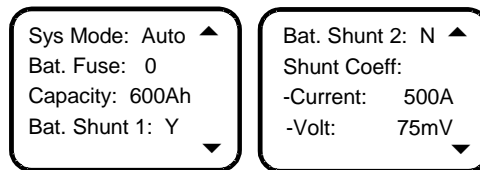

Figure 4-24 Battery basic parameter setting page
1. At the BAT Settings page, press ▲ or ▼ to select Basic Setting menu. Then press ENT to enter the battery basic parameter setting page, as shown in Figure 4-24.